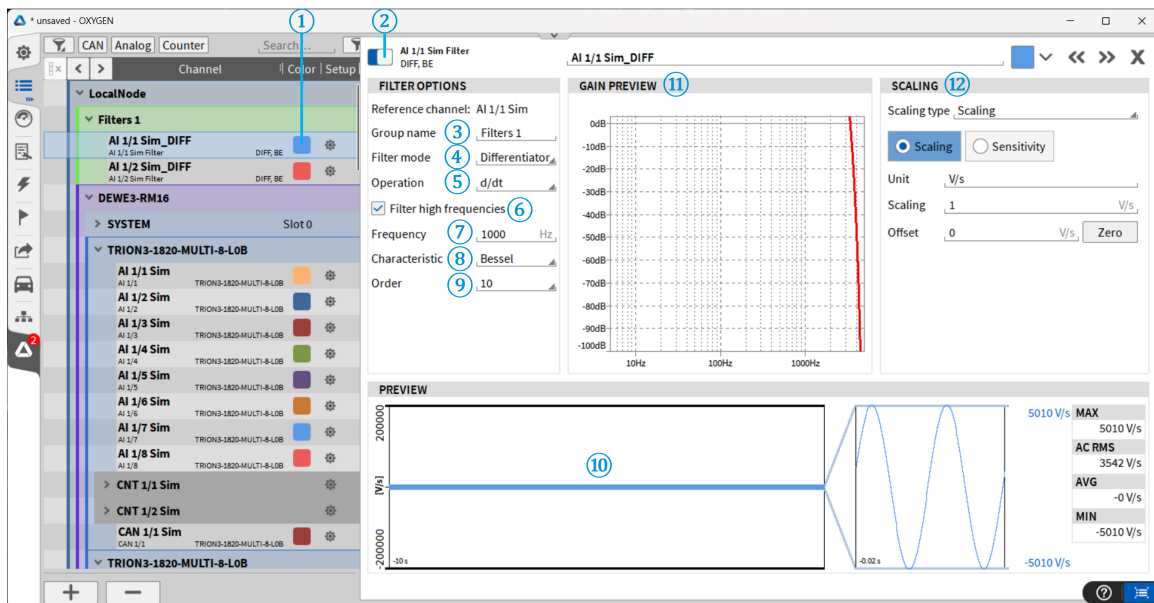

Fig. 7.94: Filter channel setup - overview
- After pressing enter, the channel will appear in the *Data Channels* menu. The defined channel parameters can be changed afterwards in the Channel Setup (see Fig. 7.94).